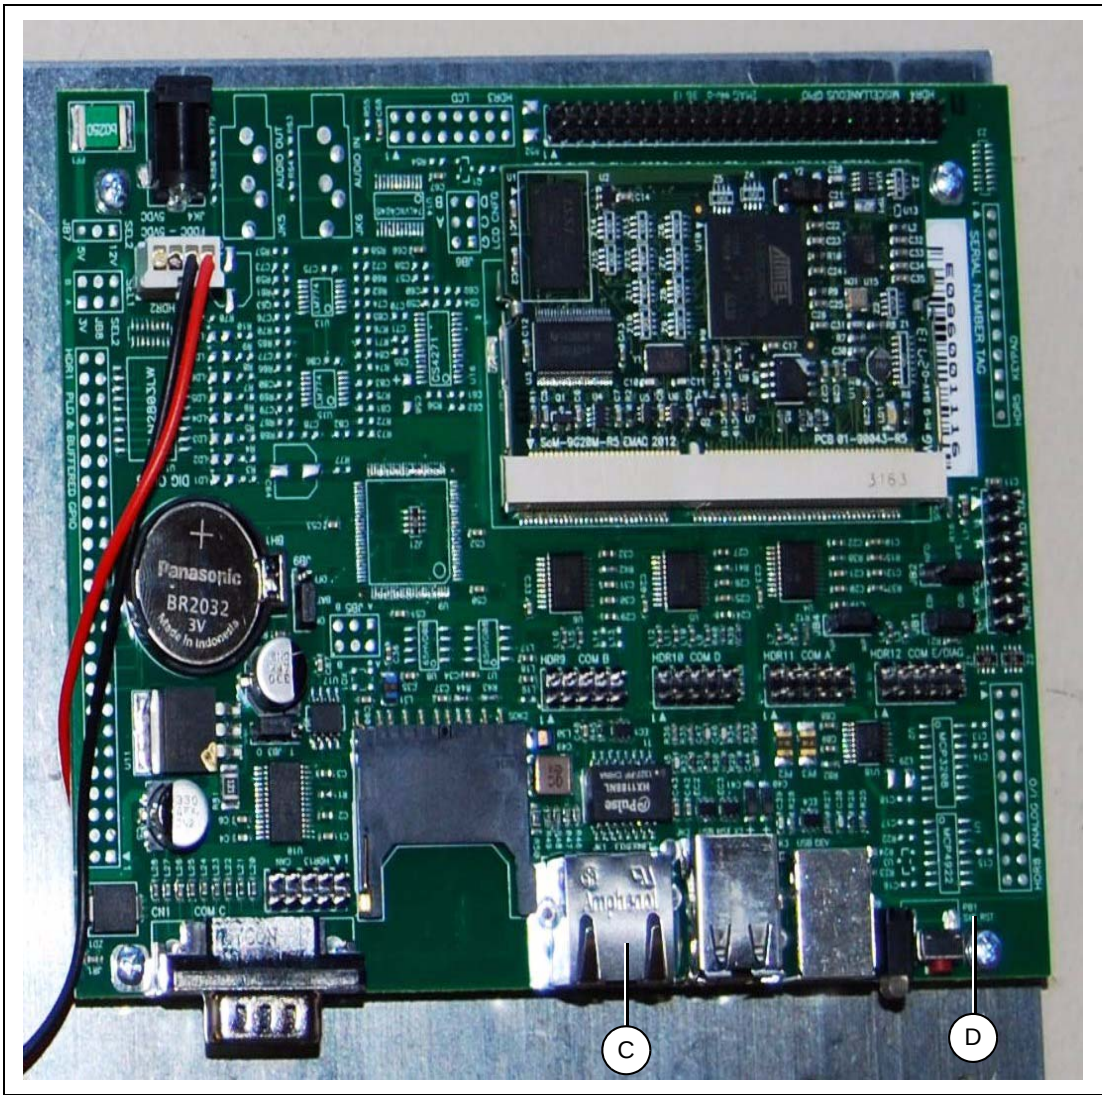

Figure 5D WatchDog Board
(See Figure 5D.) Each port is labeled on the circuit board.
3. Connect hardwired Ethernet connection provided by the customer to the WatchDog's Ethernet port. (See Figure 5D on Page 18.)